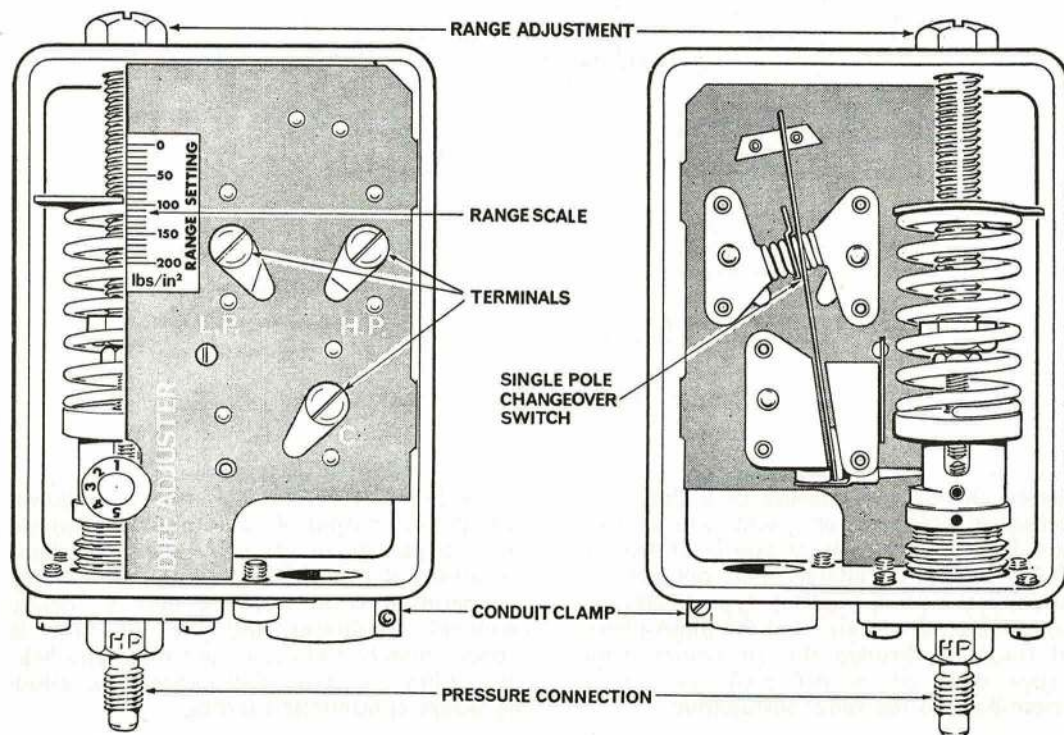

Fig. 4. AUTOMATIC PRESSURE CONTROL
23. **Automatic Pressure Control.** The purpose of the automatic pressure control (Fig. 4) or, as it is also known, the **high pressure cut-out**, is to switch off the engine when an excessive pressure builds up in the condenser side of the system, and to automatically switch on the engine when the pressure returns to normal and so allow the engine to be restarted. The control has a full range